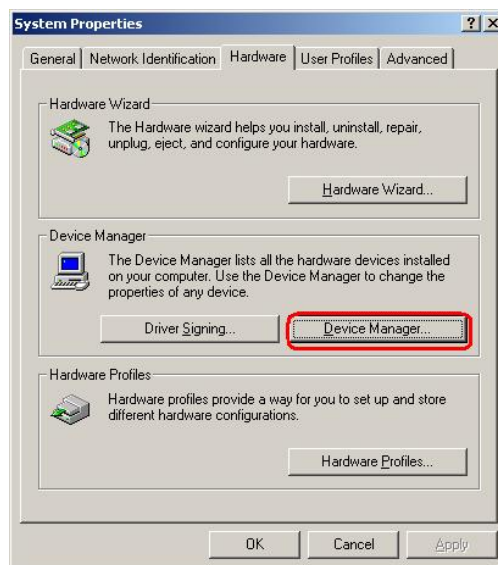

Figure 7-18: Double Click the Device Manager Tab
Step 3: Double click the **Device Manager** tab (Figure 7-18).